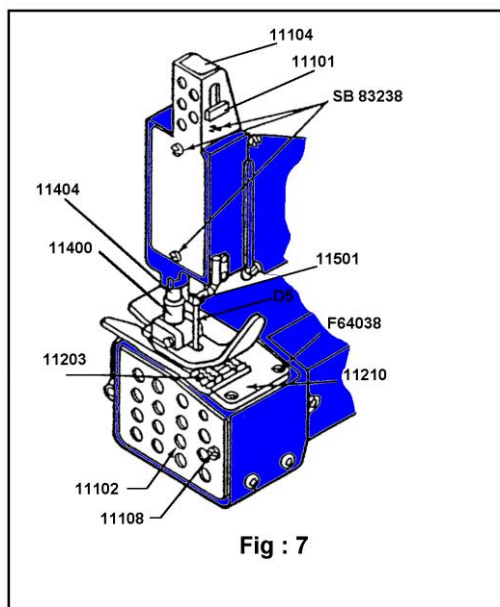

Fig : 7
6. Remove the throat plate (11210), Fig: 7.